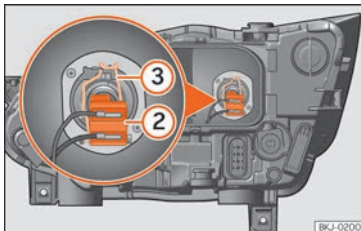

Fig. 53 In the engine compartment: dipped beam headlight bulb.
- Remove the bulb connector »» Fig. 53 ②.
- Unclip the retainer spring »» Fig. 53 ③ pressing inwards to the right.